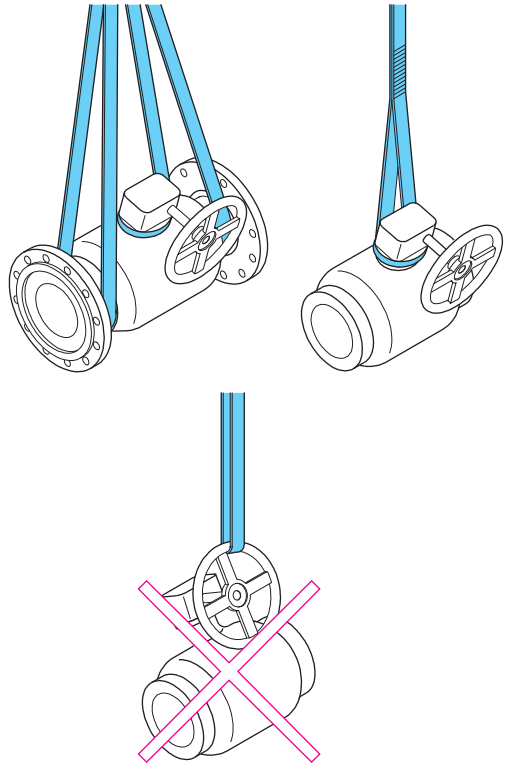

Figure 2. Lifting the valve ≤ DN250 reduced bore.
Use lifting ropes when lifting the large size valves. It is forbidden to lift the valve by its actuator or stem (see Figures 2 and 3).
- Use one of the allowed lifting methods shown in Figures 2. and 3.